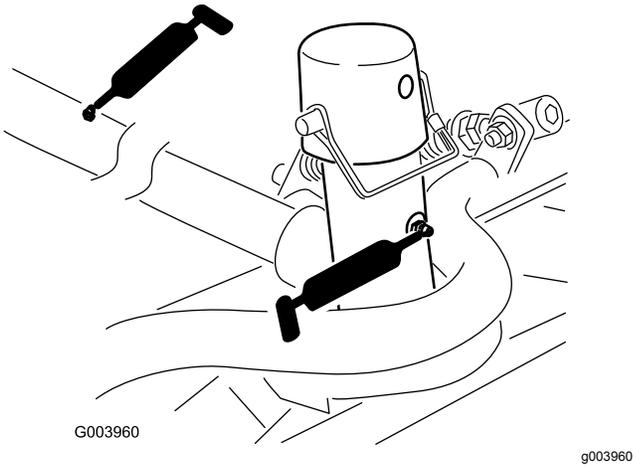

Figure 77
- Cutting-unit carrier-frame and pivot (2 each) (Figure 77)